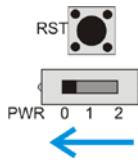

Figure 4-5
- Turn off the power as shown in Figure 4-5.